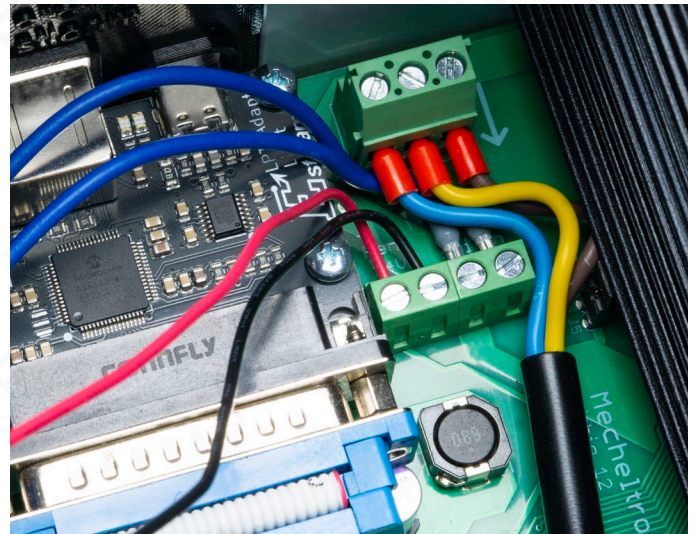

Fig. 22: Connection of the fan (red / black) next to the main switch.
- Connect the fan to the terminal labeled „FAN“ on the motherboard. See Fig. 22.